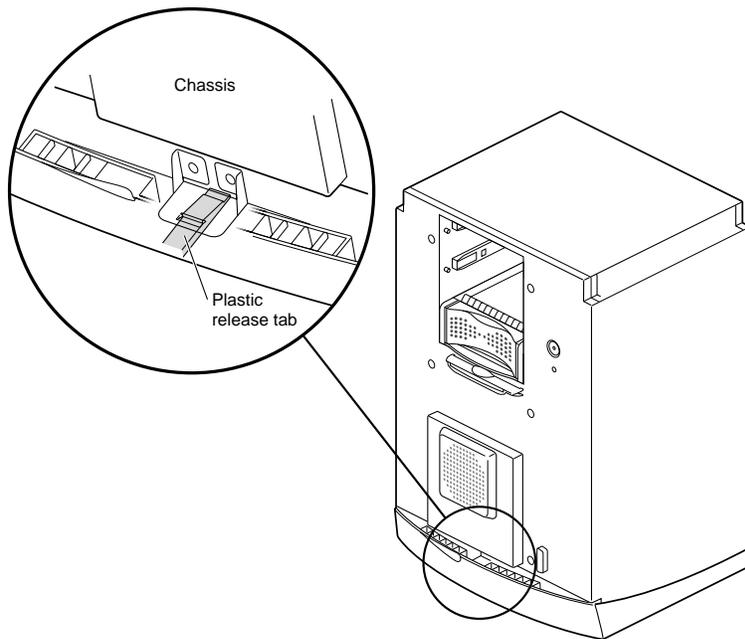

Figure 7-32 Locating the Release Slots
1. On the base of the workstation, find the plastic release tab that is located in front of the metal tab, as shown in Figure 7-32.